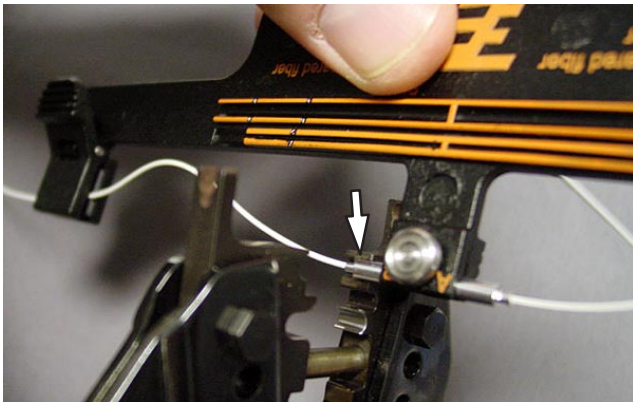

Figure 23
11. Position the splice assembly into the die set as shown in Figure 23 and crimp the buffer by closing the handles until the ratchet releases.